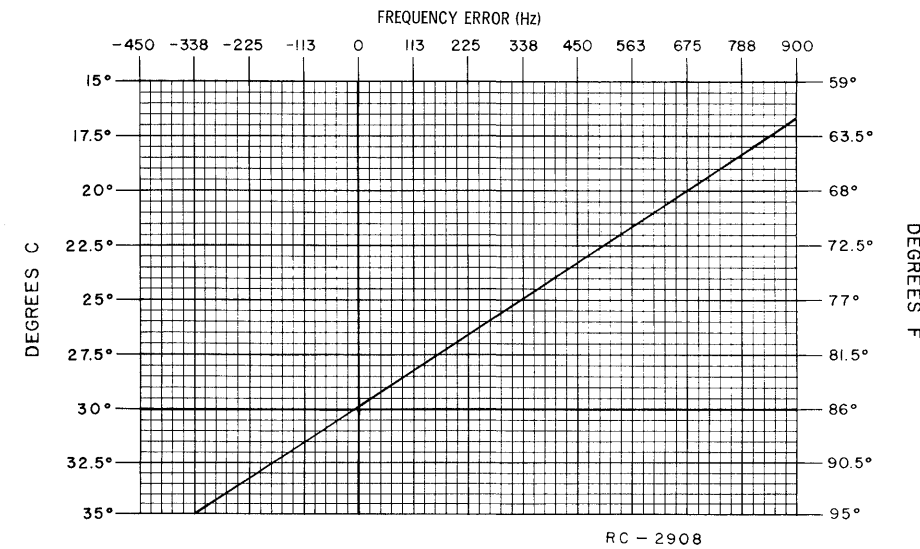

Figure 4 - Crystal Module Frequency Offset Chart
First, check the frequency to determine if any adjustment is required. (Refer to frequency offset chart, Figure 4.) The frequency measurement requires equipment with an absolute accuracy that is 5 to 10 times better than the tolerance to be maintained. When adjusting the frequency, the entire radio should be as near as possible to an ambient temperature of 30°C (86°F).
To set crystal frequency using "beat frequency" method, the temperature should be at 30°C (86°F). If the temperature is not 30°C, then offset the "ON FREQUENCY" signal (at the receiver's input), as a function of actual temperature, by the frequency ERROR FACTOR shown in Figure 4.
- Maintain the radio at 30°C (±5°C, -10°C) and offset the oscillator, as a function of actual temperature, by the frequency error shown in Figure 4.